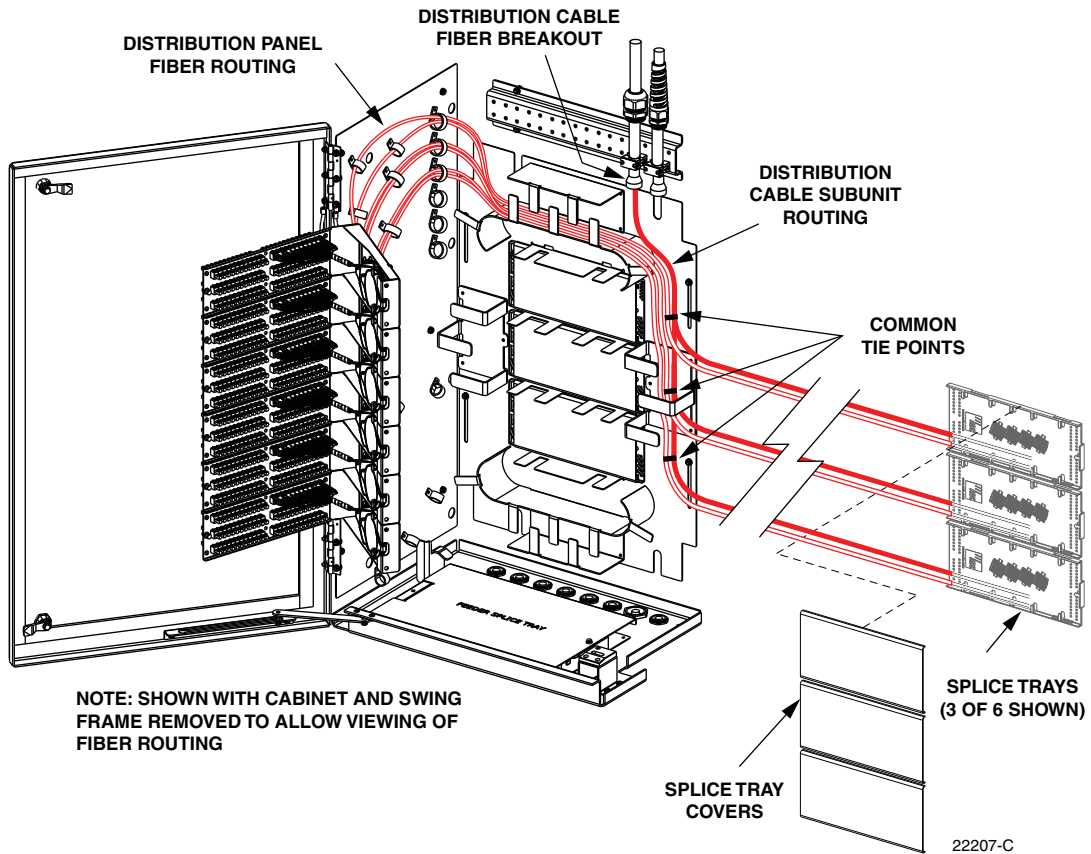

Figure 39. Distribution Fiber Routing – Stranded Cable
4. Beginning at the distribution cable fiber breakout point shown in Figure 39, route the distribution cable subunits to the intersect point with the distribution panel fibers.